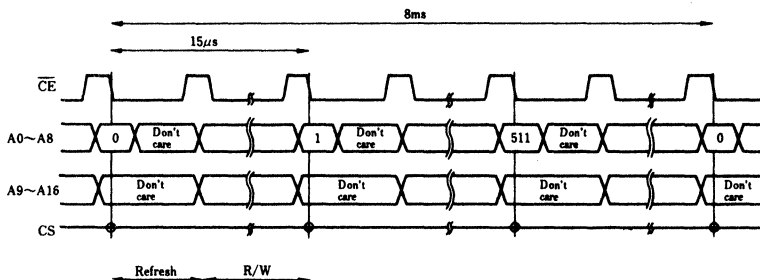

Figure 2-6. Address Refresh
**Address Refresh:** Address refresh mode performs refresh by access to row address (A0 – A8) 0 – 511 sequentially within 8 ms, as shown in figure 2-6 (in